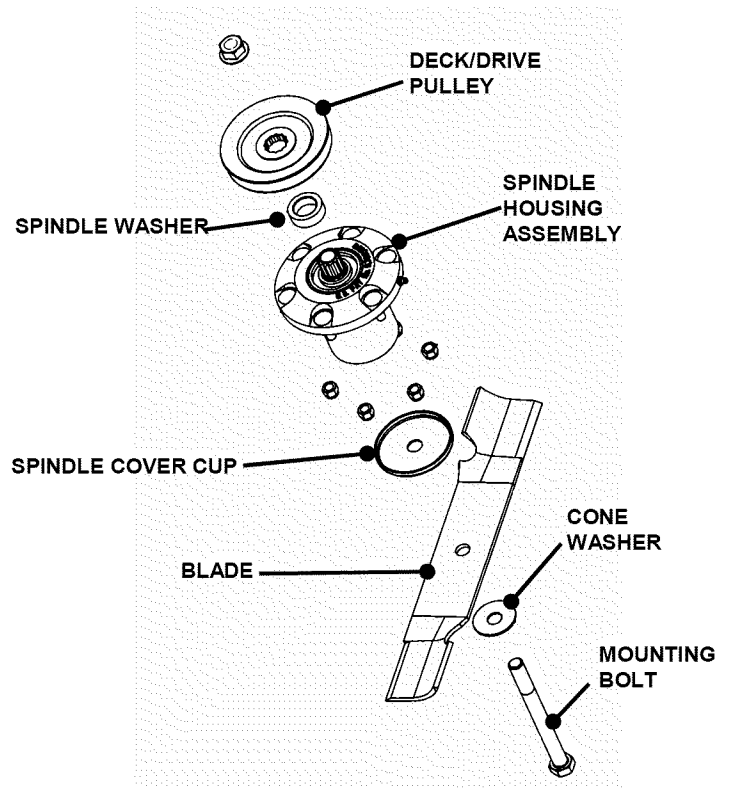

FIGURE 4.18
5. Remove blade mounting nut and cone washer from each blade. See Figure 4.18.